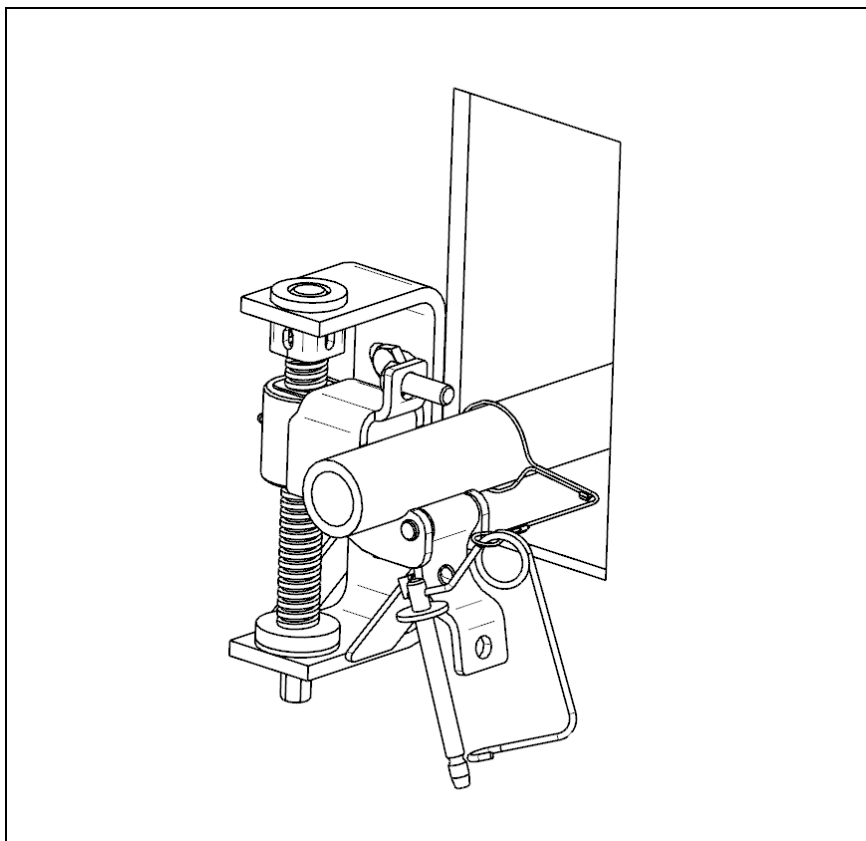

Fig. 17:
6. When using the cleaner with part number SQC2, secure the locking bolts of the blade cartridge with the rope on the mainframe as shown in Figure 17.